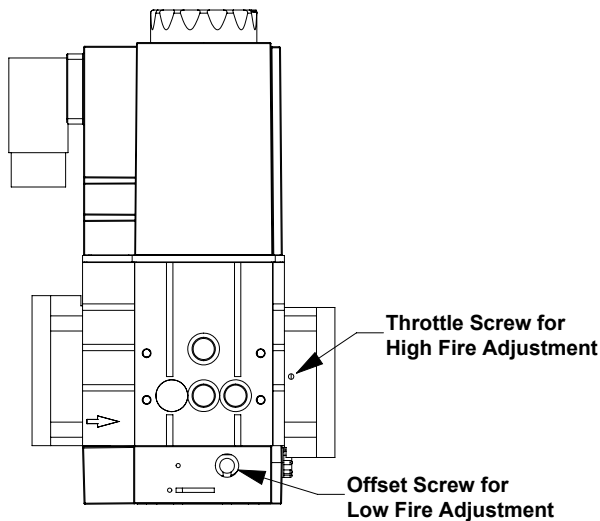

Figure 24: Gas Valve Air-to-Fuel Adjustment
- d. If high fire O₂ is too high (CO₂ is too low), decrease O₂ (increase CO₂) by turning the throttle screw towards the "Plus (+)" sign in 1/4 turn increments and checking the O₂ (or CO₂) after each adjustment. Refer to Figure 24 for location of throttle screw. Verify CO air free is less than 200 ppm.